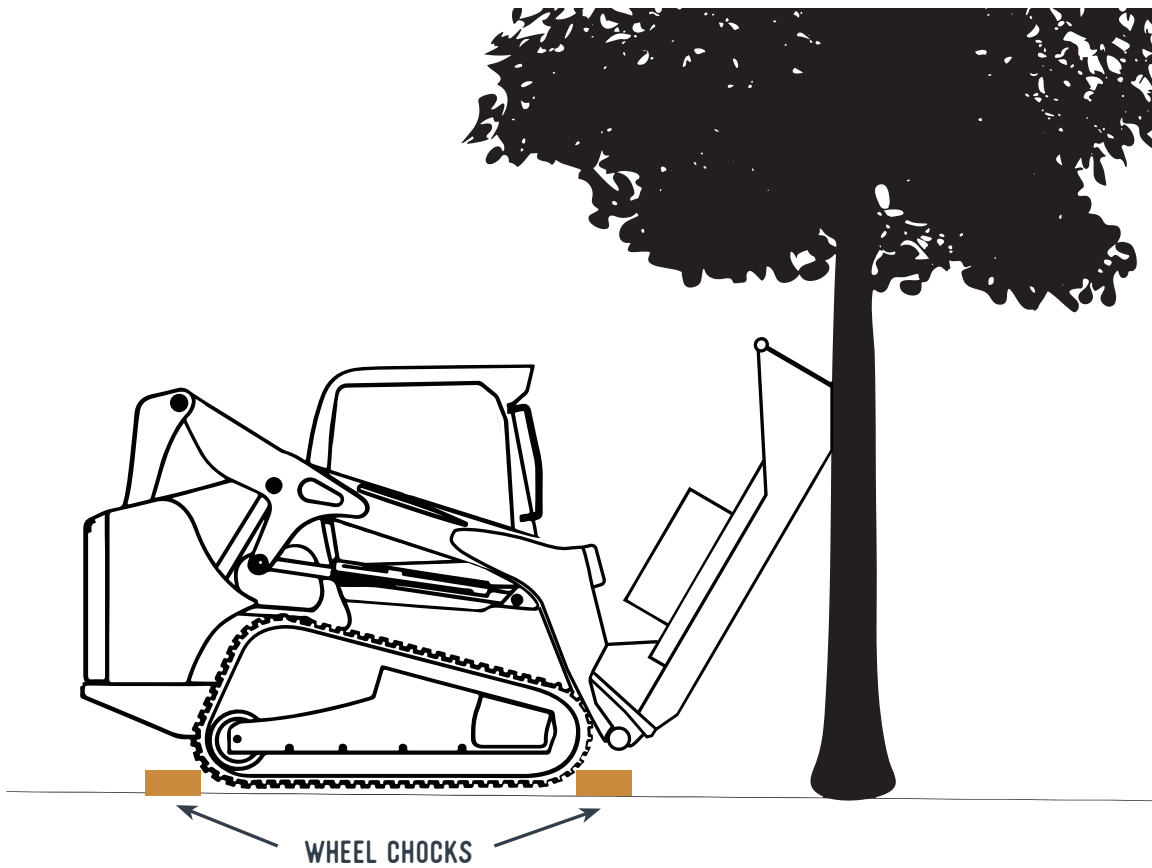

FIGURE 4.4A – BRUSH CUTTER DECK SUPPORTED BY TREE
4. SECURE the front end of the cutter deck with an overhead hoist and chain. If you are performing this procedure in the field, lean the cutter head against a large, stable tree that has a diameter of at least 10 inches (see Figure 4.4a Right).